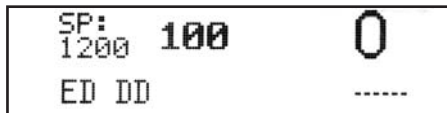
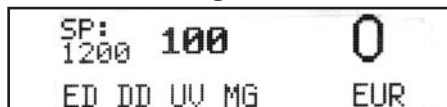

Fig. 4
Fig. 6
- For the PRO100 model, optical density detection and banknote width detection are ON (see Fig. 4)
- In "CF" mode, set the detection modes according to the following recommendations (Fig. 4 to Fig. 6):
- For PRO 100, see Fig. 4
- For PRO 100UM, PRO 100 MULTI, see Fig. 6